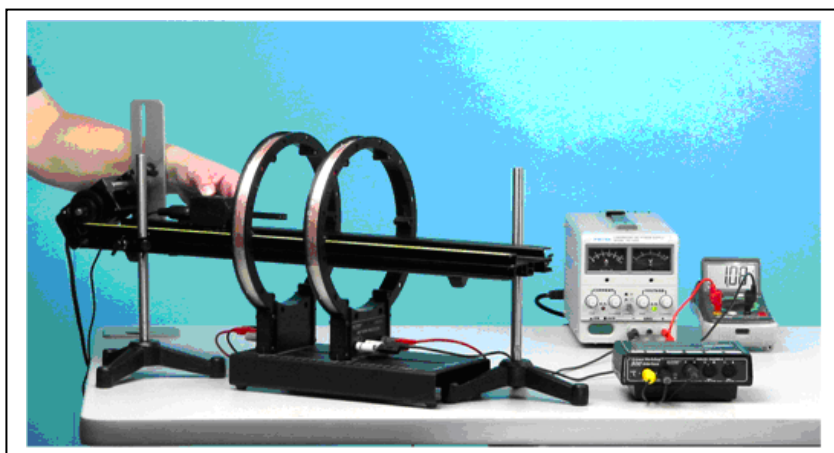

Figure 6: Helmholtz Coils
- Attach a second coil to the Helmholtz Base at a distance from the other coil equal to the radius of the coil (this makes $d = R$) in equation (2). Make sure the coils are parallel to each other. See Figure 6.